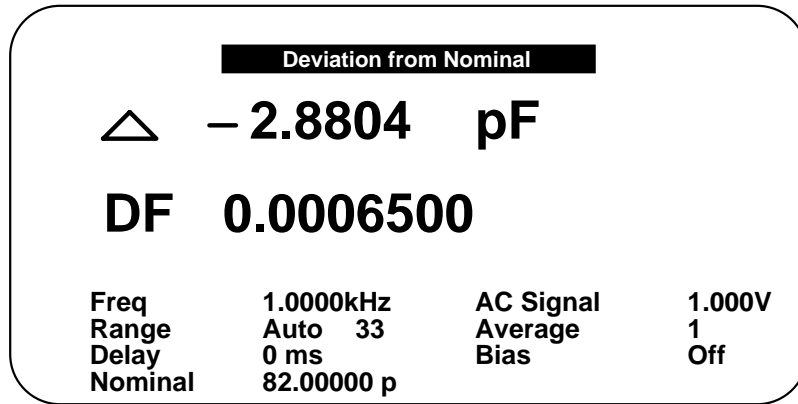

Figure 2-17
- **% Deviation from Nominal** - Display is the measurement in terms of a percent difference above or below (-) a stored nominal value (also refer to paragraph 2.6.3.2). It should be noted that the nominal value is only shown in this display and the Deviation from Nominal display (Figure 2-17).